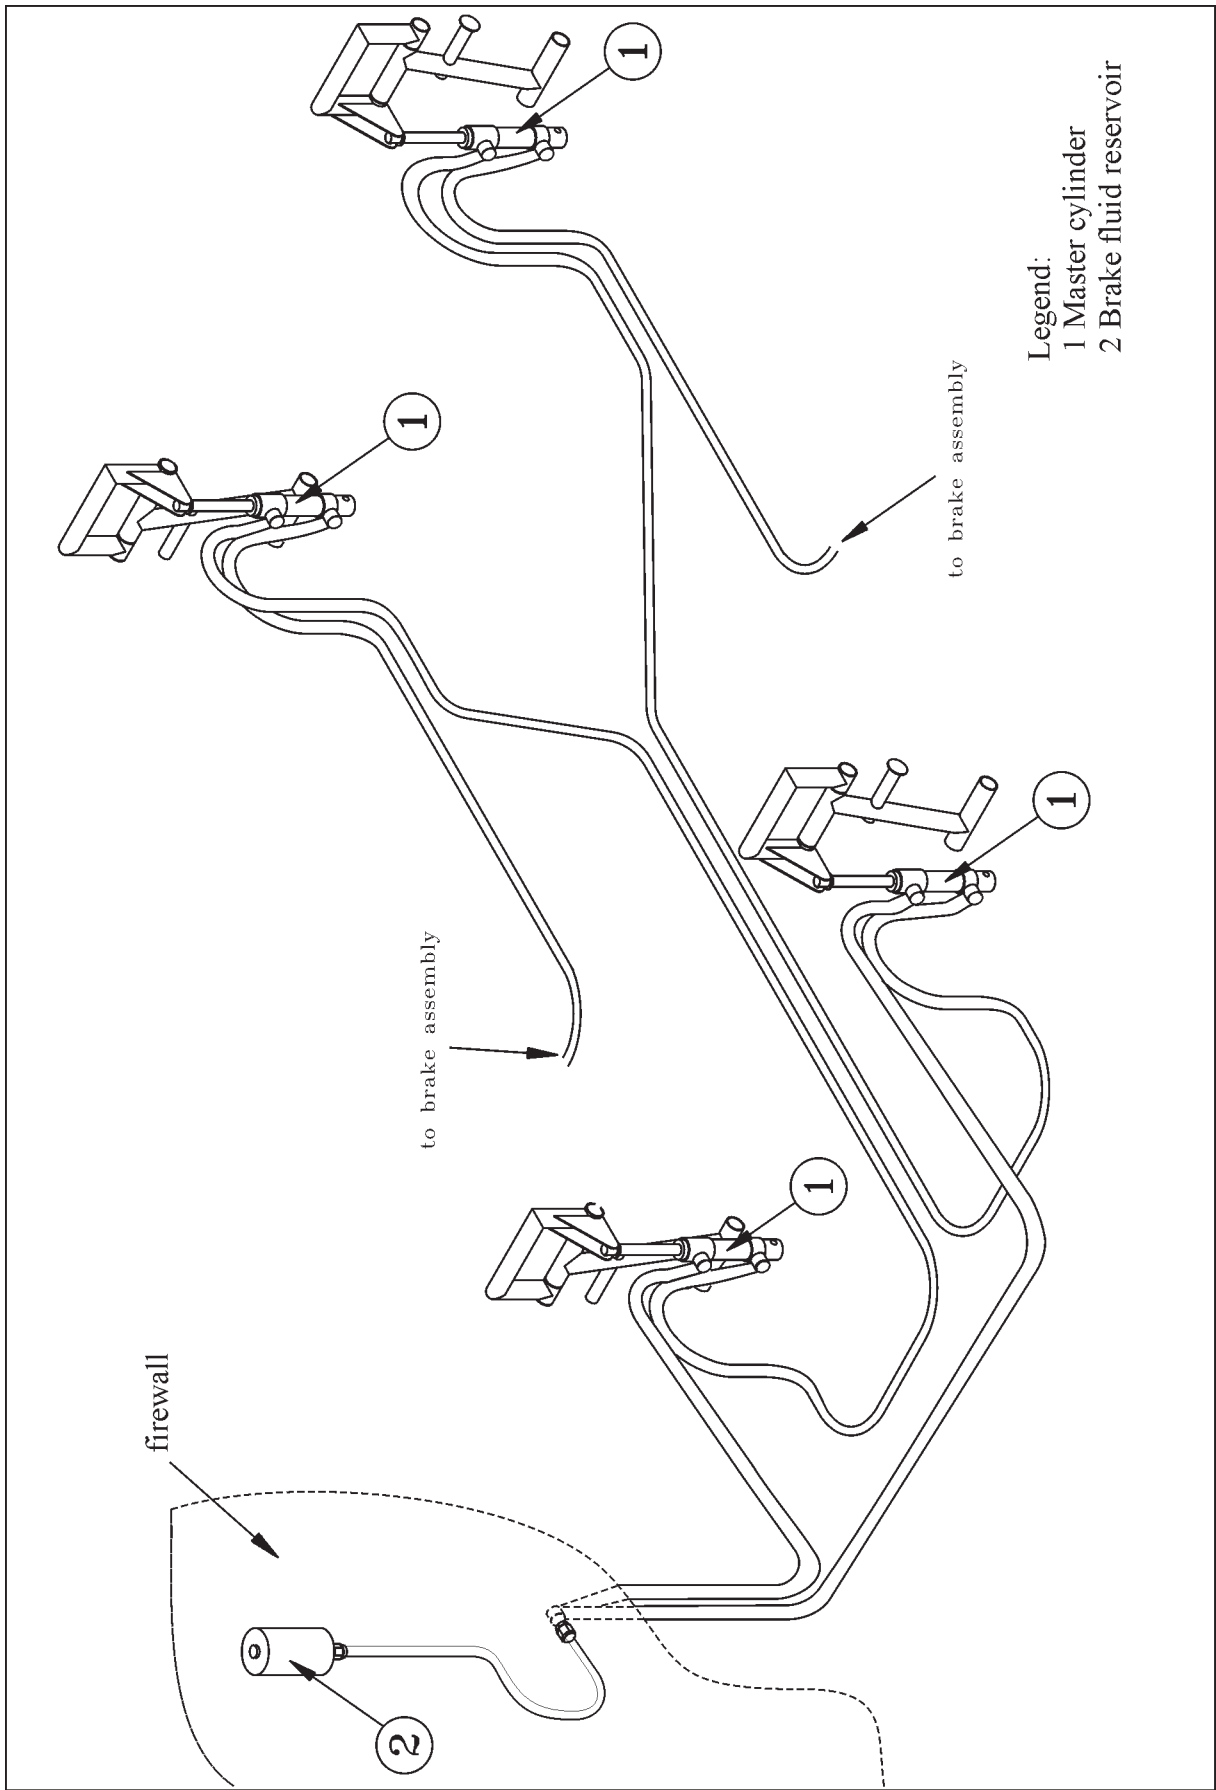

Figure 6
The brake system (refer to Figure 6) consists of a brake assembly located at the inner side of the wheel, a master cylinder (1) at the front and rear rudder pedals each, and a brake fluid reservoir (2) mounted at the engine side of the firewall. The master cylinders are mounted in line, so that the front cylinder loses his efficiency, when the rear cylinder has been actuated. The particular parts of the brake system are interconnected by brake lines consisting of aluminium tubes and flexible KNAPP hoses.